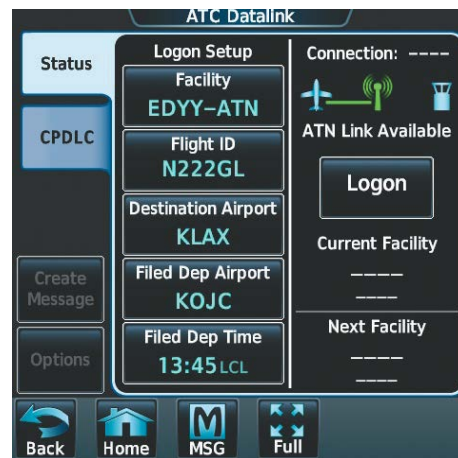

Figure 4-66 Departure Time Set
- 11) Touch the **Enter** Button. The confirmation screen is displayed as shown in Figure 4-66.